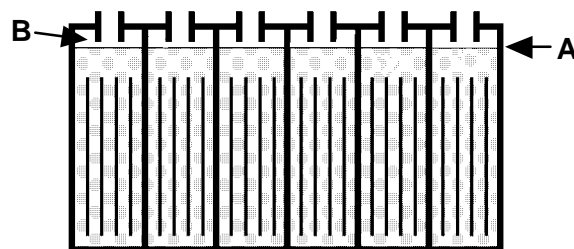

FIG. 24
2. Each week **after** charging, check fluid level (A) in each battery cell of all batteries. The level should be 1cm from bottom of sight tubes (B). If needed, add just enough distilled water to raise level 1cm from bottom of sight tubes. **DO NOT** overfill (Figure 24).